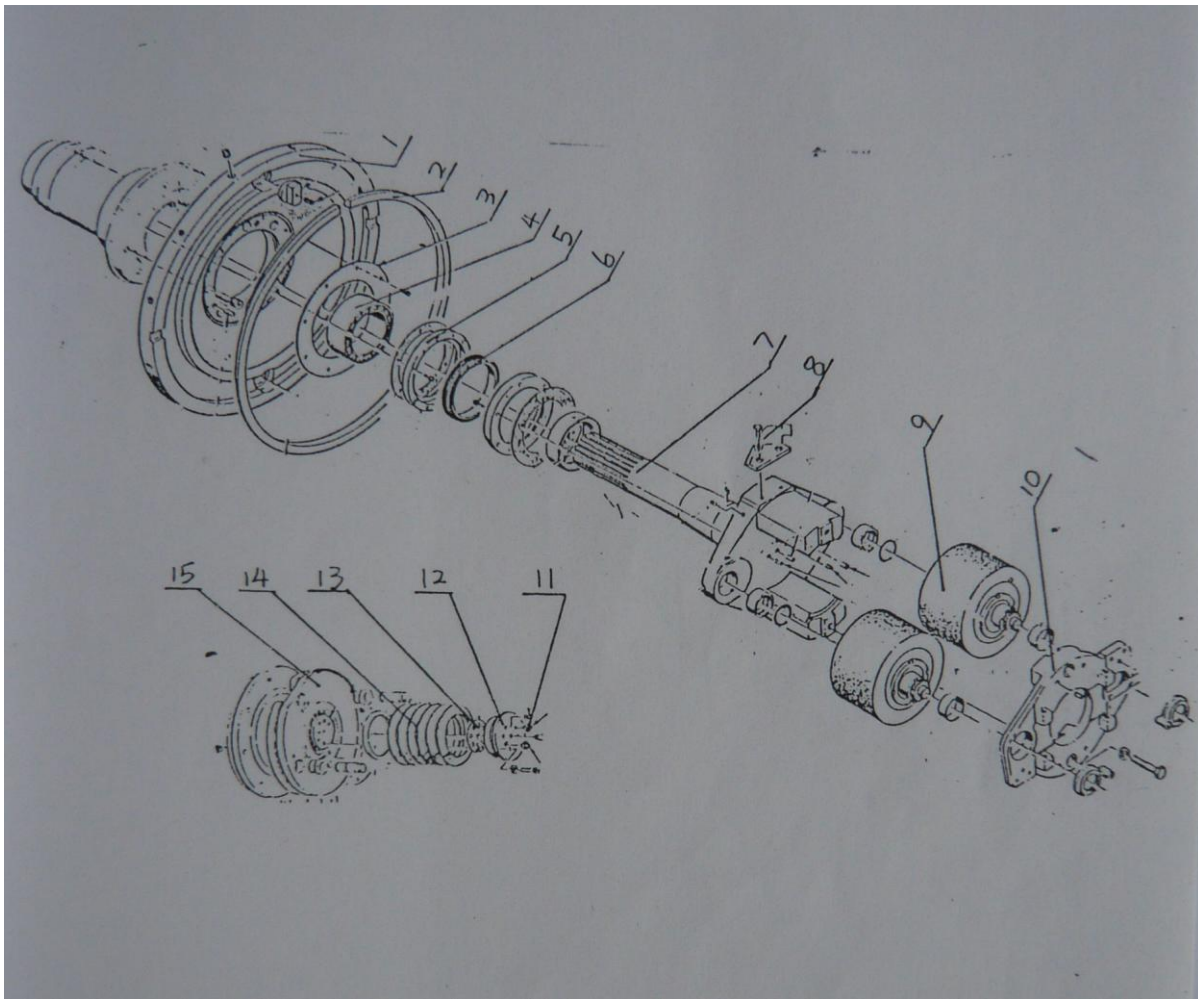

Figure 14 The axis of installation schemes
The disassembling and assembling steps are as following (see Figure 14):
- A. the disassembly procedures, according to the spindle first remove the spindle; (figure 14)
- C. Remove bolts, and take the spline shaft, a 14 safety pin a 12, air shaft every lap 10 and bearing every circle (figure 14); 9
(1) tear open outfit bearing
A. in the disassembly sequence spindle take spindle; (see figure 14)